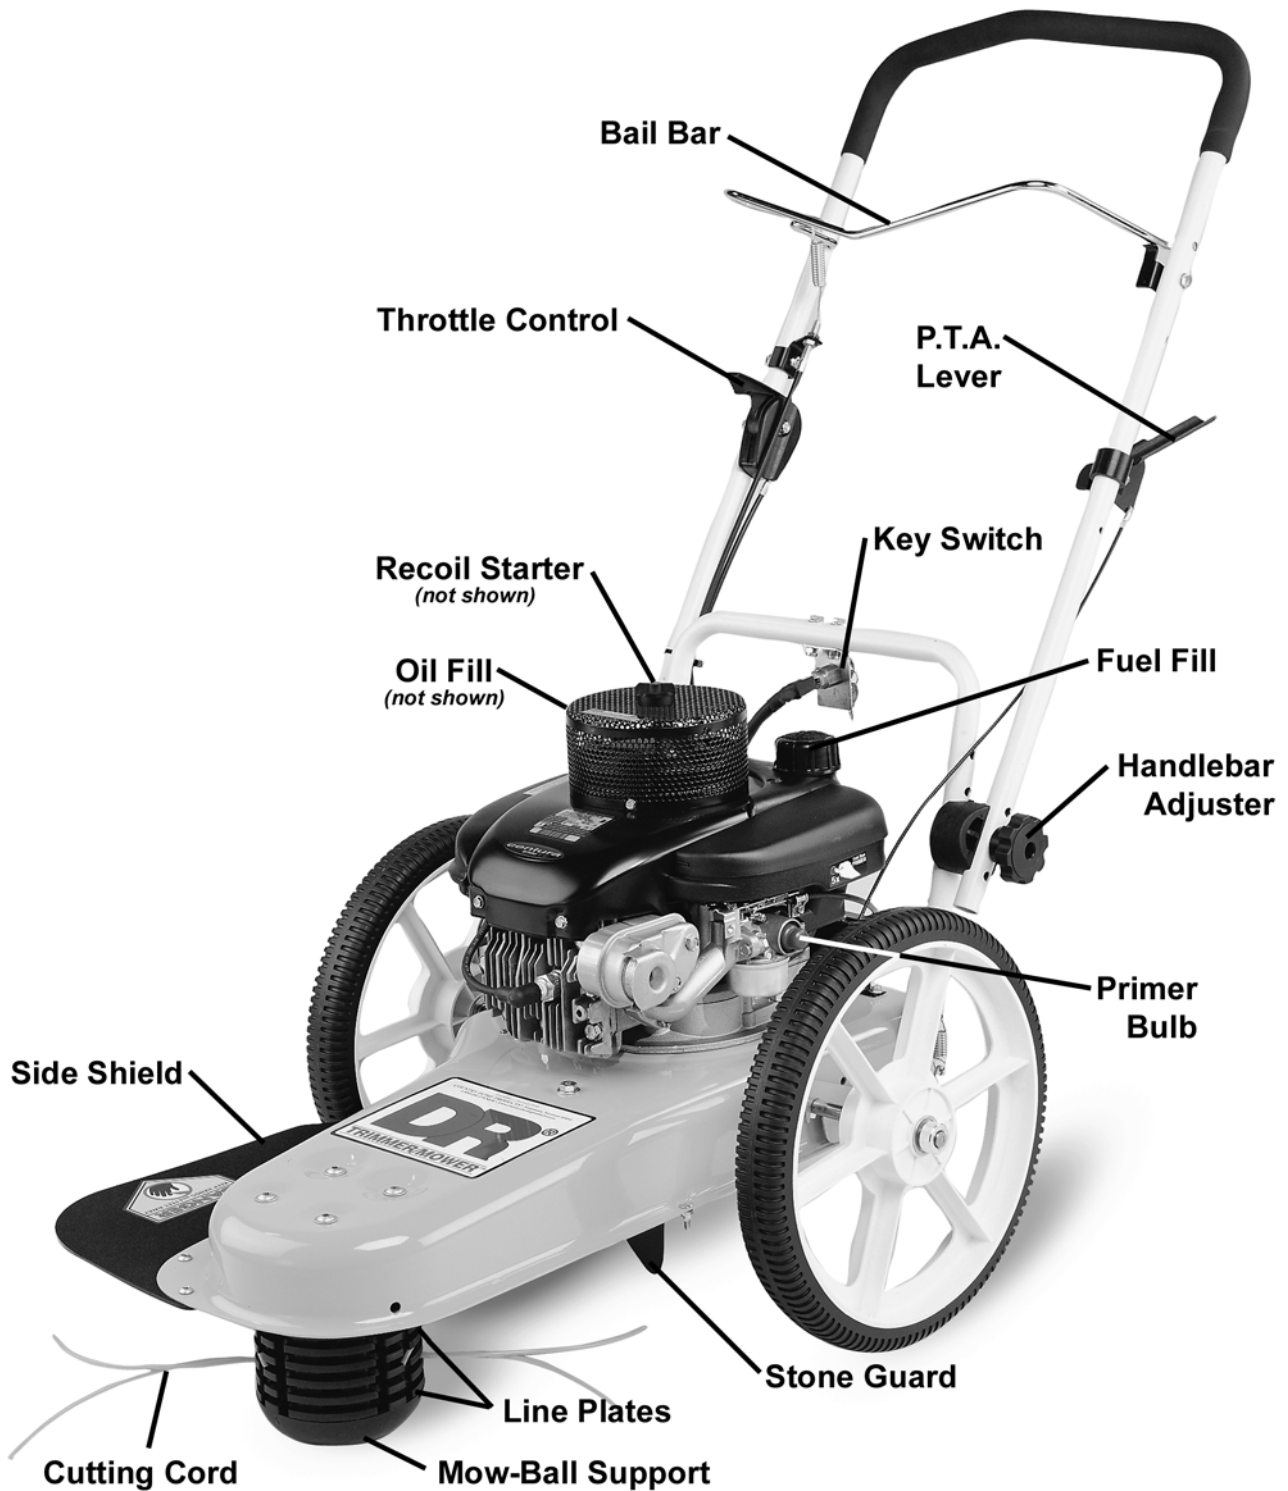

Figure 3
1. Push the throttle lever on the right side of the handlebar (*Figure 3*) all the way forward to the START position.
On the 3.5 HP model the primer bulb is located on the left side of the engine (*Figures 3 & 5*).
3. Grasp the recoil starter handle (*Figure 3*), and slowly pull until resistance is felt. Let the cord retract a little bit, then pull the cord rapidly to start the engine. One or two pulls usually starts the DR® TRIMMER/MOWER™, but it may be necessary to repeat the priming.
Move the throttle control lever (*Figure 3*) back to the STOP position.
Bring the bail bar (*Figure 3*) toward you and grip it together with the handlebar. Keep holding the bail bar to the handlebar. The cutting cords will now be rotating and will continue to rotate until you release the bail bar.